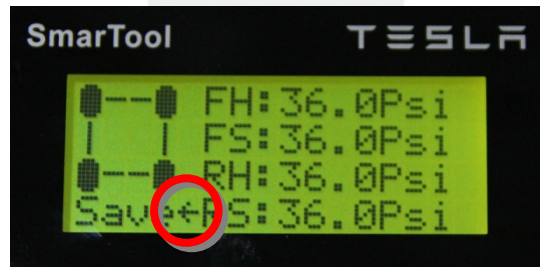

Figure 5
10. After RS is set properly, press the down button. The cursor flips to point toward Save (Figure 5). Press ENTER. The tool displays “Succeed” when the thresholds are updated in the ECU.